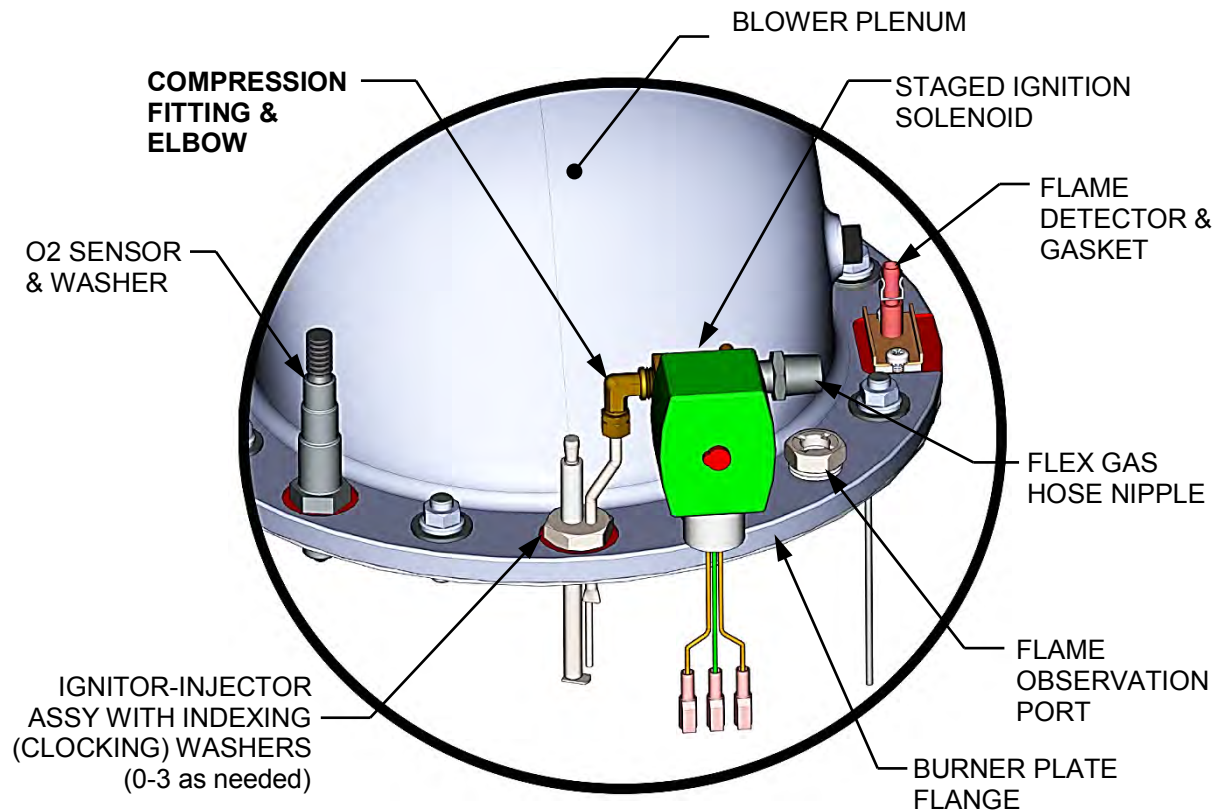

Figure 7-2. Igniter-Injector & Flame Detector Mounting Details
4. Refer to the partial exploded view in Figure 7-2. Using a 7/16" open-end wrench, disconnect the compression nut securing the gas injector tube of the igniter-injector to the elbow of the staged ignition assembly. Disconnect the staged ignition assembly from the igniter-injector.
2. Remove the top shroud from the unit by grasping the top handle and lifting straight up. This will disengage the shroud from the four (4) pins in the side panels.
4. Remove the two (2) screws securing the flame detector to the plate (Figure 7-2). The flame detector is secured to the burner plate with one #10-32 screw and one #8-32 screw.
3. Disconnect the lead wire from the flame detector installed on the burner plate. See Figure 7-2.
4. Remove the two (2) screws securing the flame detector to the plate. The flame detector is secured to the burner plate with one (1) #10-32 screw and one (1) #8-32 screw.
7. Using a 7/16" open-end wrench, disconnect the compression nut securing the gas injector tube of the igniter-injector to the elbow of the staged ignition assembly (see Figure 7-2). Disconnect the staged ignition assembly from the igniter-injector.